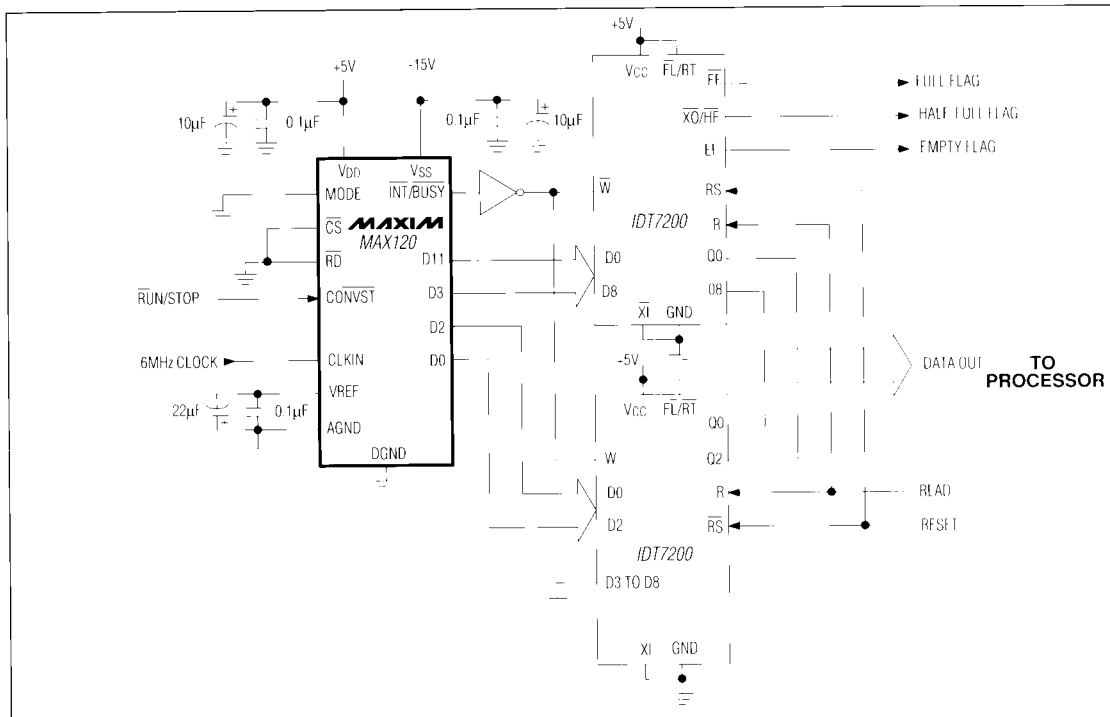

Figure 13. Using MAX120 with FIFO Memory
Using FIFO memory to buffer blocks of data from the MAX120 reduces  $\mu\text{P}$  interrupt overhead time by enabling the  $\mu\text{P}$  to process data while the MAX120, unassisted, writes conversion results to the FIFO. To retrieve a block of data, the  $\mu\text{P}$  reads from the FIFO via a read-interrupt cycle. Read and write operations for the FIFO are completely asynchronous. Figure 13 shows the MAX120 operating in continuous-conversion mode (mode 5), writing data directly into the two IDT7200 256 x 9 FIFO buffers at the rate of 428kps. The  $\mu\text{P}$  is interrupted to read the accumulated data by the FIFO's half-full (HF) flag approximately three times per millisecond. For operation at 500kps, use an 8MHz clock, and pulse CONVST at 500kHz. The full flag (FF) indicates that the FIFO is full. If this flag is ignored, data may be lost. If necessary, conversions can be inhibited by pulling CS, RD, or CONVST high. The FIFO's read cycle times are as fast as 15ns, satisfying most system speed requirements. The RESET input resets all data in the FIFO to zero.